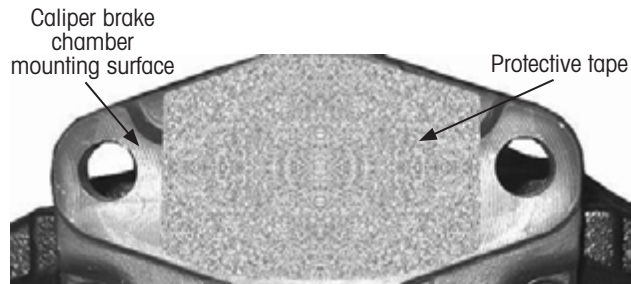

Figure 39: New caliper with protective tape
NOTE: The protective tape covering the caliper brake chamber mounting surface must be fully removed (Figure 39).
1. **Remove** all shipping material from the new brake (Figure 39).